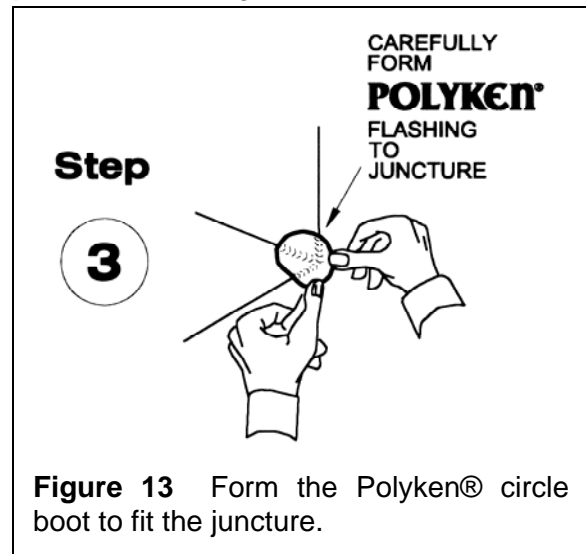

Figure 13 Form the Polyken® circle boot to fit the juncture.
Step 3. Form the Polyken® or Nashua® circle boot to the substrate using finger pressure. See Figure 13.